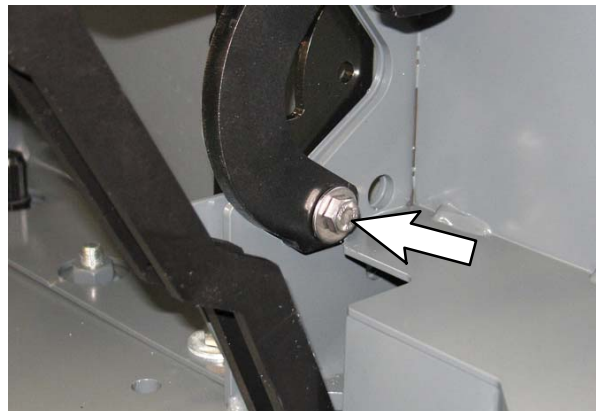
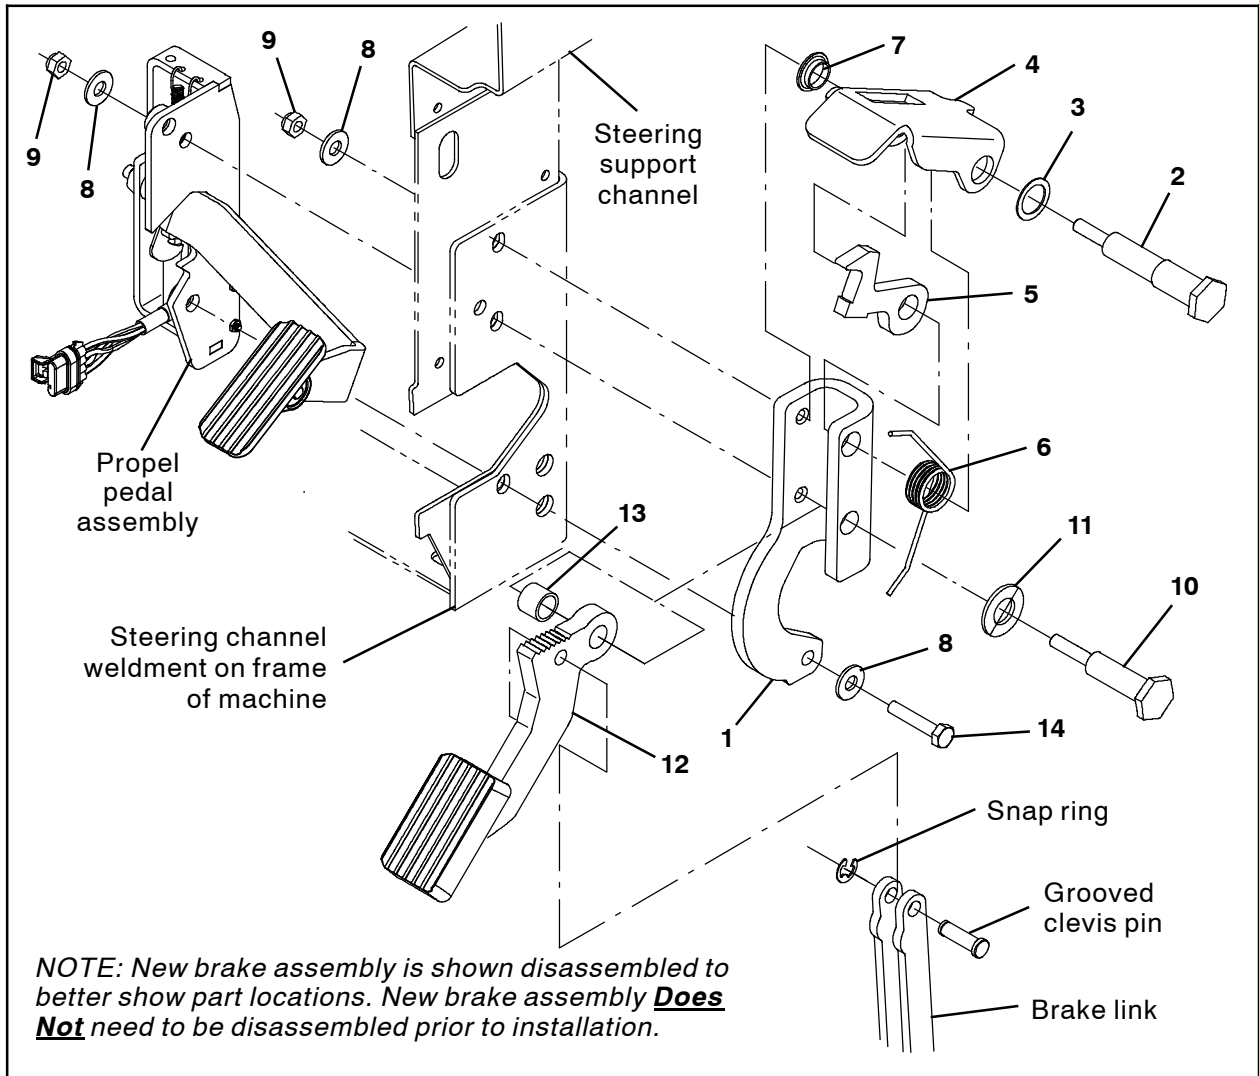

FIG. 8
FIG. 9
- Position the new parking brake assembly onto the machine and use two M8 hex lock nuts (9) and two flat washers (8) to secure the parking brake assembly to the steering channel weldment on the frame of the machine, the steering support channel, and the propel pedal assembly. Torque hardware to 18.5 - 24 Nm (13.6 - 17.7 ft. lbs.). (Fig. 6 / Fig. 7 / Fig. 9)
- Use a M8 hex screw (14) and flat washer (8) to secure the parking brake assembly to steering channel weldment on the frame of the machine, the steering support channel, and the propel pedal assembly. Torque to 18.5 - 24 Nm (13.6 - 17.7 ft. lbs.) (Fig. 8 / Fig. 9)
- Use grooved clevis pin and snap ring to connect the parking brake assembly to the brake link. Note orientation / location of the grooved clevis pin / snap ring. (Fig. 9)